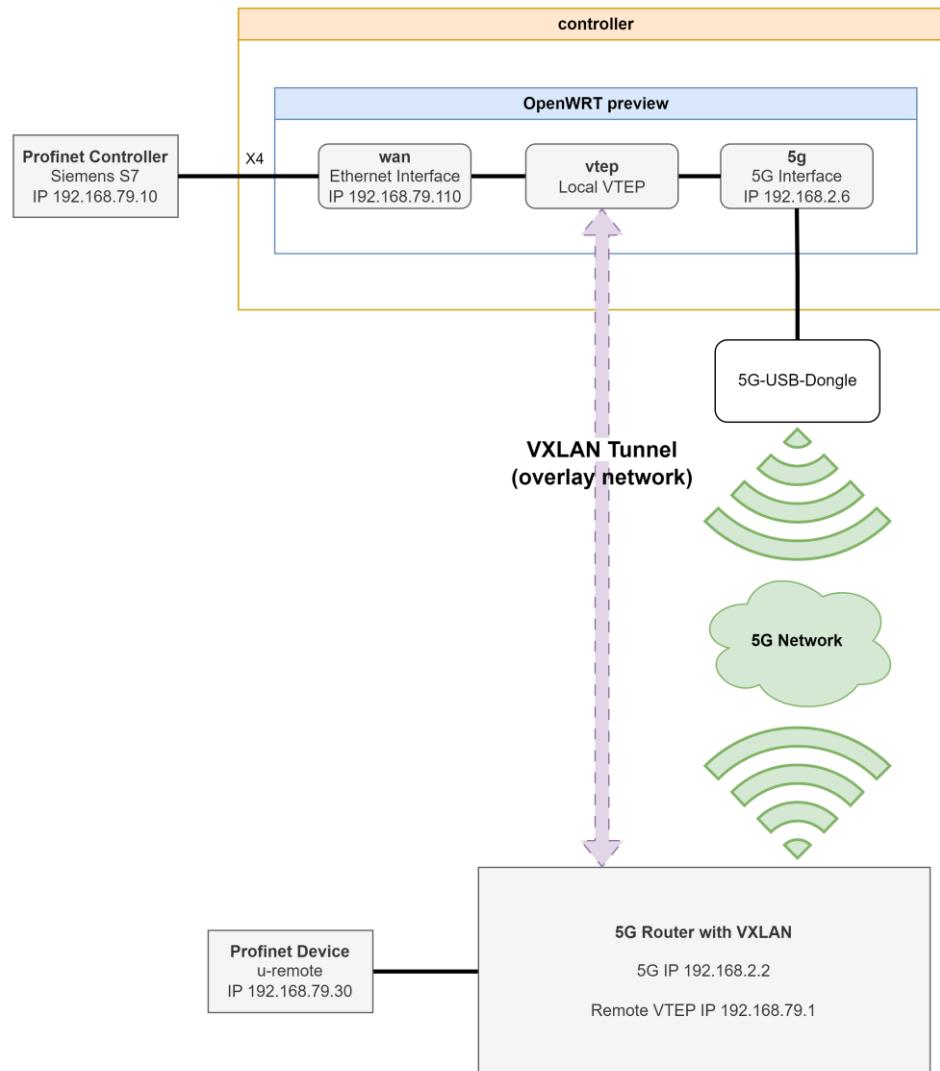

Figure 1: Example setup for the VXLAN tunnel via 5G for Profinet
- ▶ Input the remote VTEP IP address in the field above **IPv4 Ping** such as **192.168.2.2** as mentioned in the Figure 1.
- ▶ Setup the **Remote IPv4** address of the remote VTEP such as **192.168.2.2** as mentioned in the Figure 1.
- ▶ Connect an Ethernet port of the controller to the Profinet device or controller such as Ethernet port **X4** as mentioned in the Figure 1.
- ▶ Setup an IP address such as **192.168.79.101** as mentioned in the Figure 1.